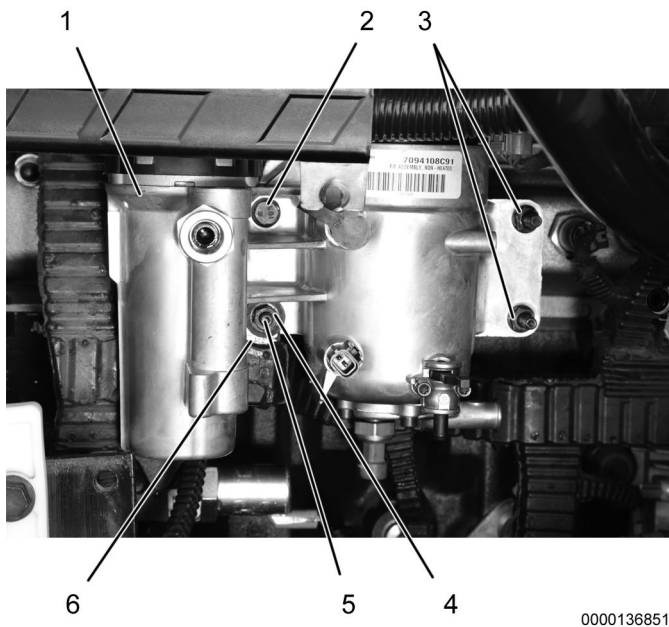

Figure 5. Fuel Filter Assembly.
3. M8 x 75 stud bolt (2)
18. Remove M8 nut (Figure 5, Item 4) and engine harness (Figure 5, Item 6) from M8 x 75 stud bolt (Figure 5, Item 5).
19. Remove three M8 x 75 stud bolts (Figure 5, Items 3 and 5), M8 x 75 bolt (Figure 5, Item 2), and fuel filter assembly (Figure 5, Item 1) from vehicle.